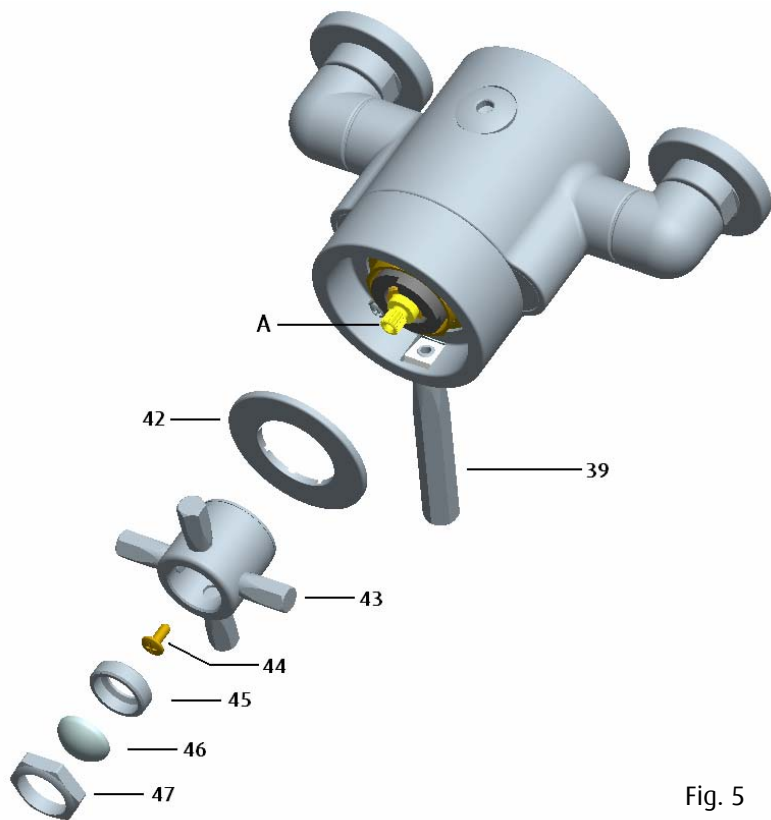

Fig. 5
It is important to note that the flow control handle (39, Fig. 5) turns through approximately 170 degrees to achieve full and maximum flow anticlockwise on, clockwise off .
The small cross handle (43, Fig. 5) controls the temperature. This control stays stationary when the flow control handle is turned.
5.4 See Fig. 5 below, remove the temperature control handle and shroud (43 & 42) by removing the indice (45, 46 & 47), remove the screw (44) and pulling the handle and shroud (43 & 42) off the spindle (A).